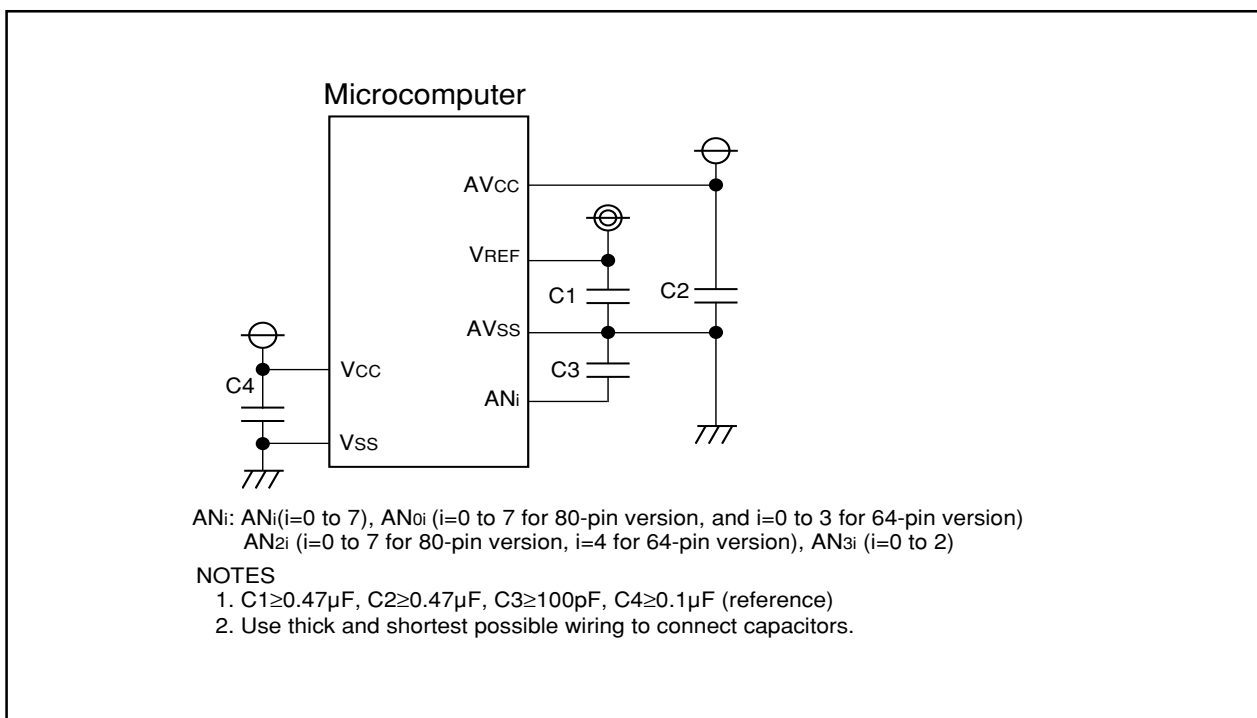

Figure 1.10.1. Use of capacitors to reduce noise
3. To prevent noise-induced device malfunction or latchup, as well as to reduce conversion errors, insert capacitors between the AVCC, VREF, and analog input pins (ANi, AN0i, AN2i(i=0 to 7)) each and the AVSS pin. Similarly, insert a capacitor between the VCC pin and the VSS pin. Figure 1.10.1 is an example connection of each pin.